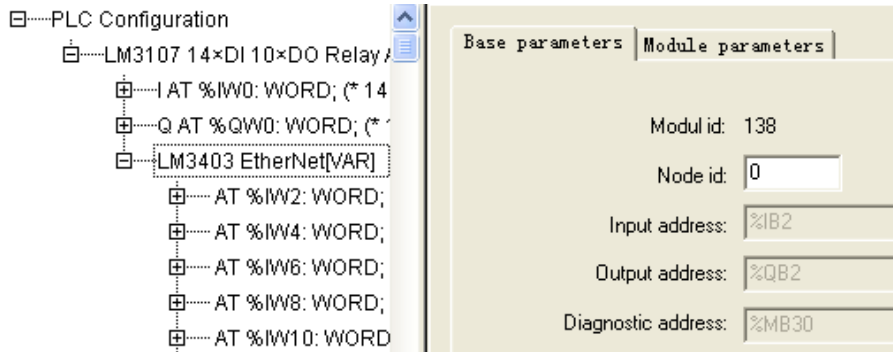

Figure B-3-2
- The Address in Ethernet module should be consistent with the node id in figure B-3-2, the data A, B sent to PLC by PC are stored in %IW4, %IW6 in figure B-3-2, and data C is stored in %IX8.0.